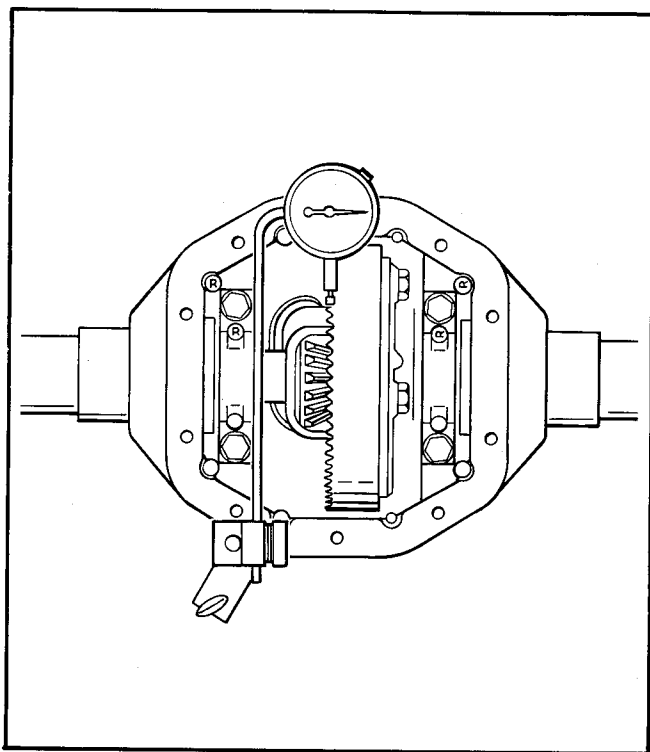

Figure 21 - Ring and Pinion Backlash Check
f. Check backlash with dial indicator, Figure 21. Place contact point of dial indicator on a ring gear tooth. Hold pinion shaft and move ring gear back and forth without moving the pinion gear or shaft. Repeat backlash check at four equally spaced points around ring gear. Backlash must be held between .004 in. (.1 mm) and .008 in. (.2 mm) and must not vary more than .002 in. (.05 mm) between positions checked. Readings in excess of specifications indicate worn ring and/or pinion gear or improper backlash adjustment.